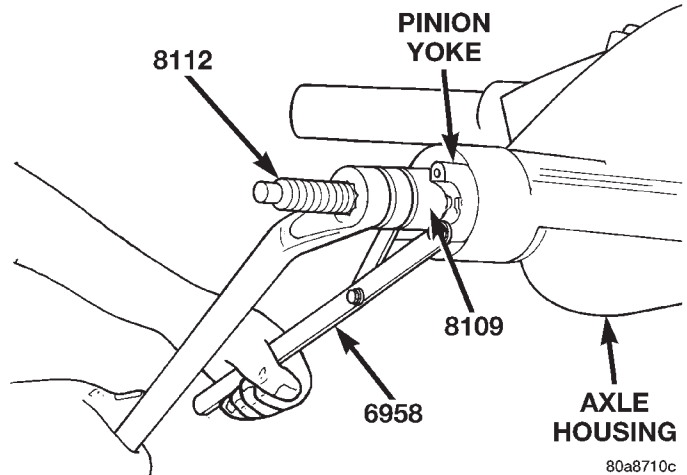

Fig. 16 Pinion Yoke Installation
(5) Install yoke with Screw 8112, Cup 8109, and Holder 6958 (Fig. 16).
(6) If the original pinion bearings are being used, install differential assembly and axle shafts, if necessary.